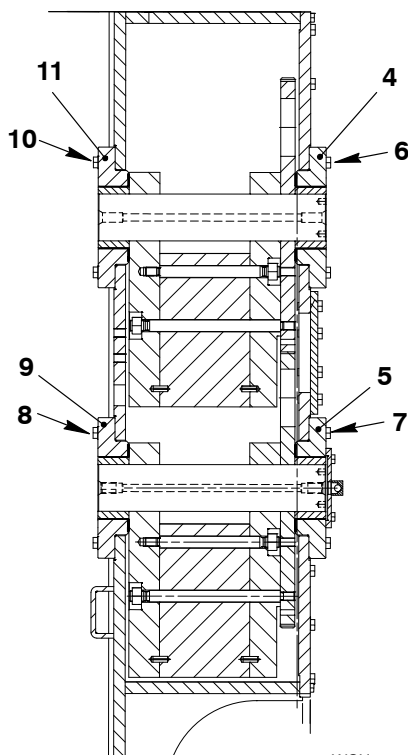

Fig. 16
- 10) Make sure that all the screws (6, 10, 7, and 8, Fig. 16) are loose or removed. One screw for each bearing must stay in position to hold the bearing.